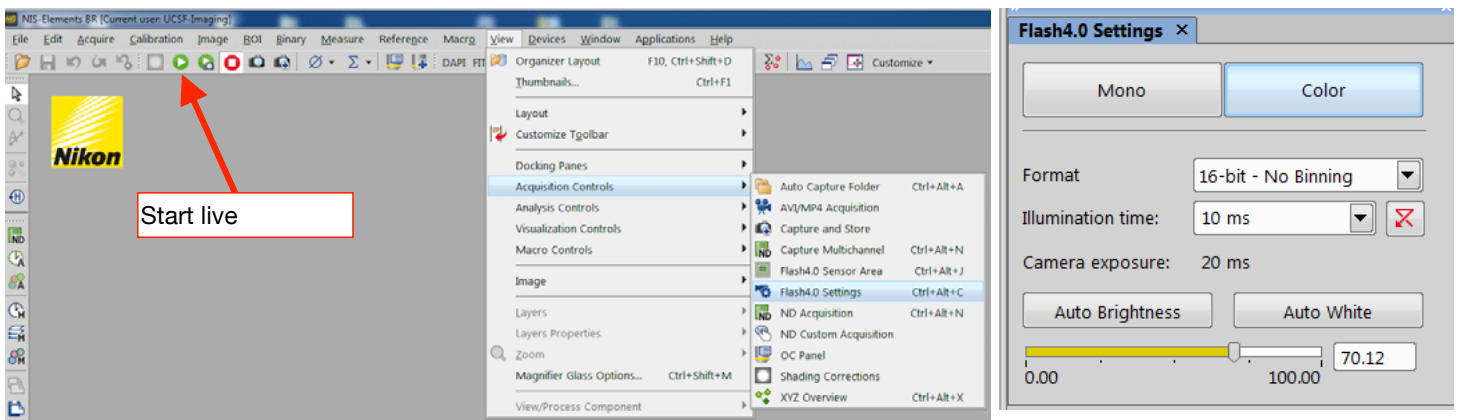

Figure 5. (Left) How to access the Camera settings: View> Acquisition Controls > Flash 4.0 Settings. (Right) Camera control pad.
4. To show the camera control settings, go to View > Acquisition Control > Flash 4.0 Settings. Select the COLOR button on the camera control pad (Figure 5).